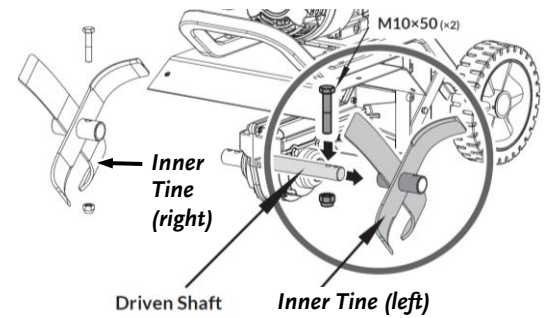

Figure 5
1. Install the two Inner Tines onto the Gearbox Shafts with two M10×50 Hex Bolts and M10 Nylon Lock Nuts using two 16mm Wrenches (**Figure 5**).